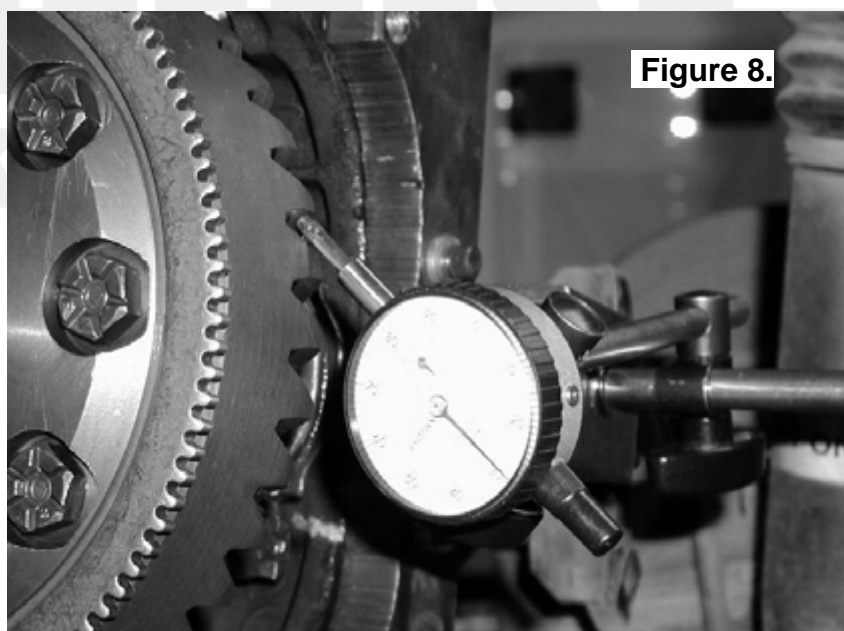

Figure 8.
- Set a depth indicator on one of the ring gear teeth. (Fig.8.)